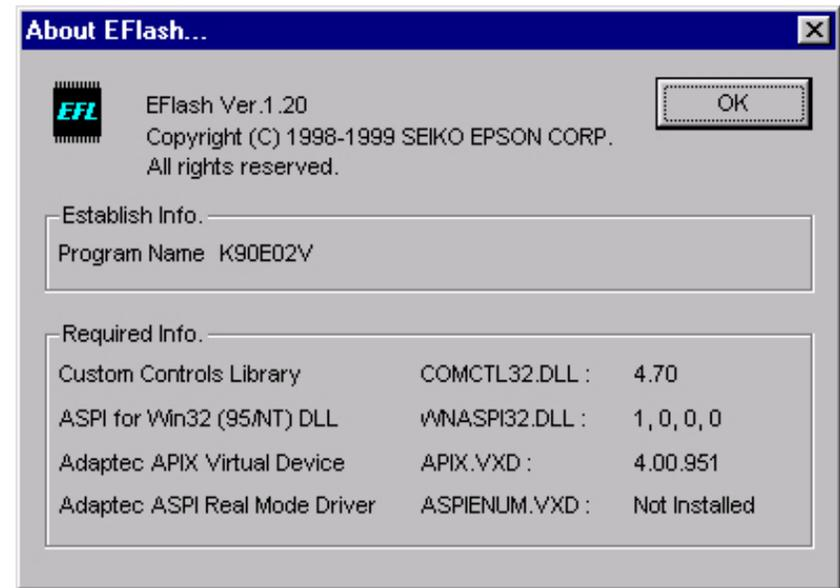
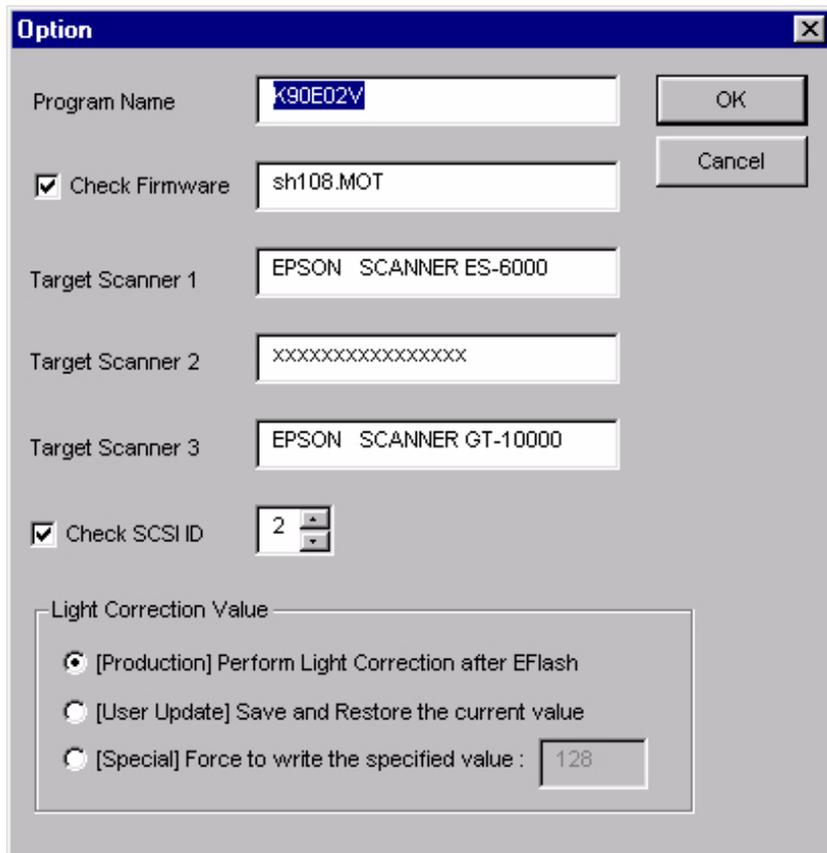

Figure 5-4. Firmware Update Requirements and Environment
Figure 5-5. Option Window
4. Click “About” button to display information on the program and the required environment as shown in Figure 5-4.
5. Double-click anywhere in the above screen other than “OK” button to display “Option” screen (shown in Figure 5-5 on the following page), and select light correction value setting for the firmware update at “Light Correction Value”. If the light correction is necessary after updating the firmware, select “[Production] Perform Light Correction after EFlash”. If firmware update only is desired, select “[User Update] Save and Restore the current value”. To specify the light value, select “[Special] Force to write the specified value” and enter the light value.
6. Click "OK" button in Figure 5-5 to go back to Figure 5-4.
7. Click "OK" button in Figure 5-4 to go back to Figure 5-3.
3). When the Flash Reservation is complete, “REBOOT SCANNER!” message box will appear (Figure 5-5).